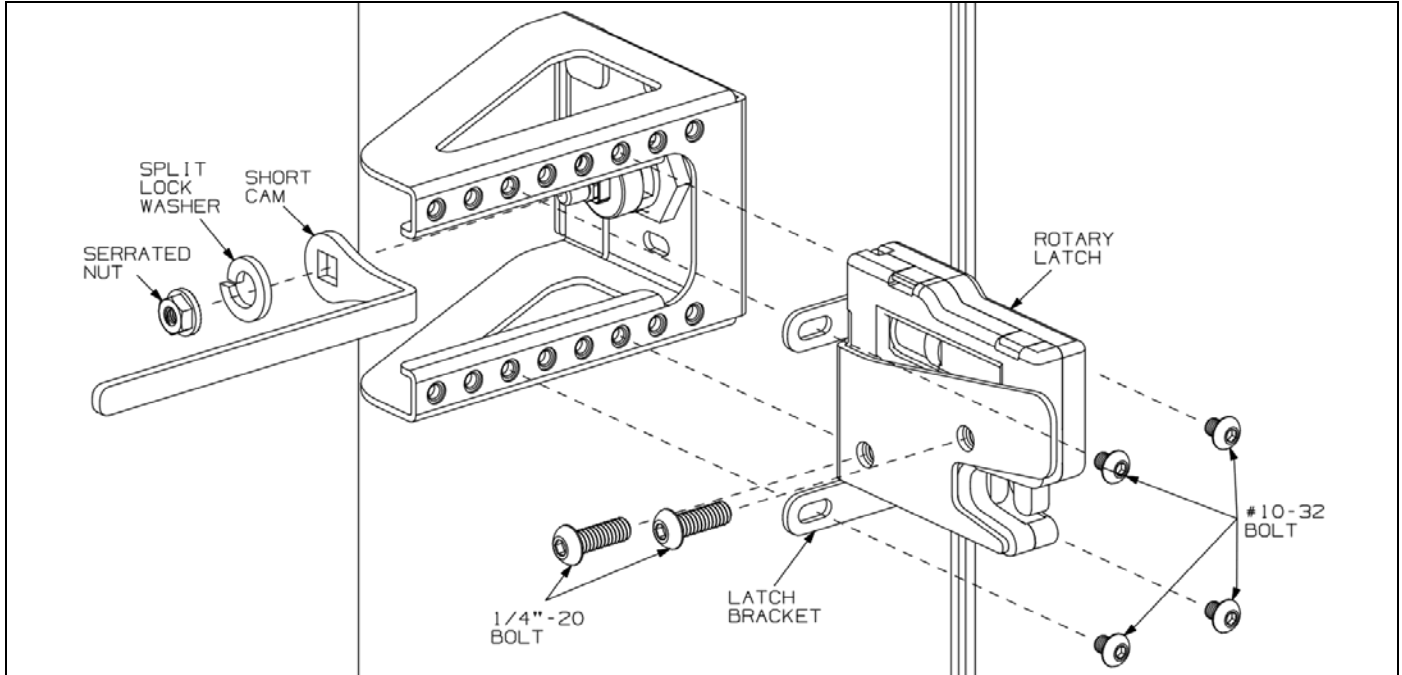

Figure 3 – Quick Assembly Guide 2 – Control Power (VS-ACK-CPWR)
4. Install Cam onto Cam Latch with supplied Split Washer and Serrated Nut (see **figure 3**).
5. Install the Rotary Latch to the Latch Bracket with supplied 1/4"-20 Bolts (2) and secure to Enclosure Bracket with supplied #10-32 Bolts (4). Ensure that the Rotary Latch is installed so the Cam rotates and engages the Override Latch (left side mount shown) (see **figure 3**).